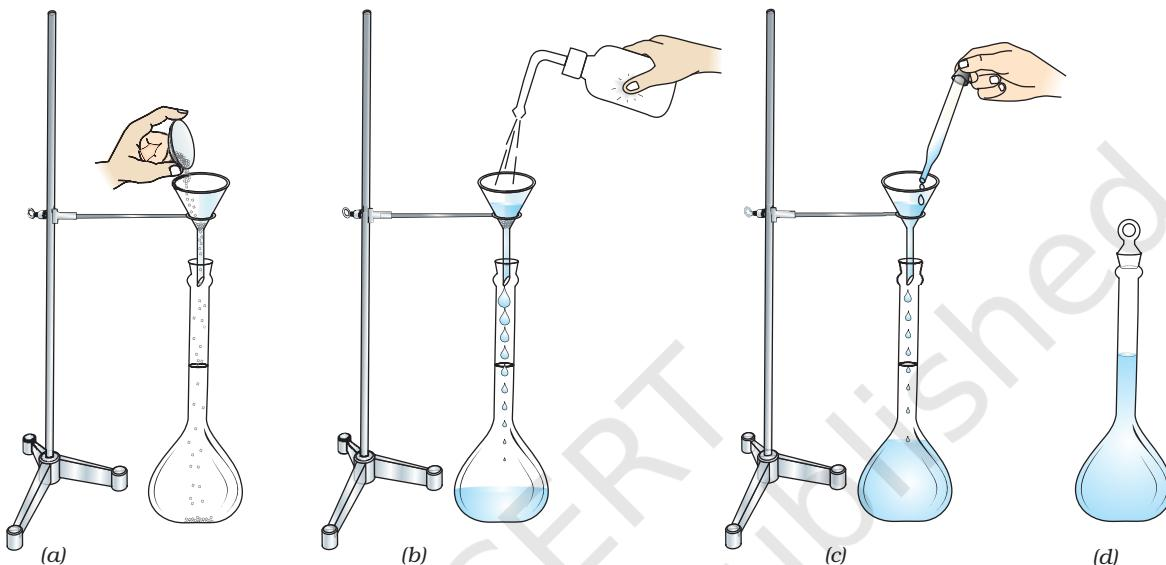

Fig. 2.27 : Making standard a solution
- (iii) Transfer oxalic acid carefully from the watch glass/weighing tube into a clean and dry measuring flask using a funnel. Weigh the empty watch glass again (Weight 3) and find out the mass of oxalic acid transferred to the measuring flask by subtracting this mass (Weight 3) from the combined mass of watch glass and oxalic acid (Weight 2). Calculate the exact molarity of solution from this mass. Wash funnel several times with distilled water by using a wash bottle to transfer the sticking particles if any into the measuring flask. While washing the funnel, add water in small amounts so that its volume in the flask does not exceed $\frac{1}{4}\text{th}$ of the volume of the measuring flask as shown in Fig. 2.27 a, b.
- (iv) Swirl the measuring flask till solid oxalic acid is completely dissolved. Add more distilled water with shaking. Make up the volume with distilled water to the etched mark by adding last few mL dropwise. Stopper the flask and shake it thoroughly to make the solution uniform throughout (Fig. 2.27 c, d). Label it as 0.1 M oxalic acid solution.